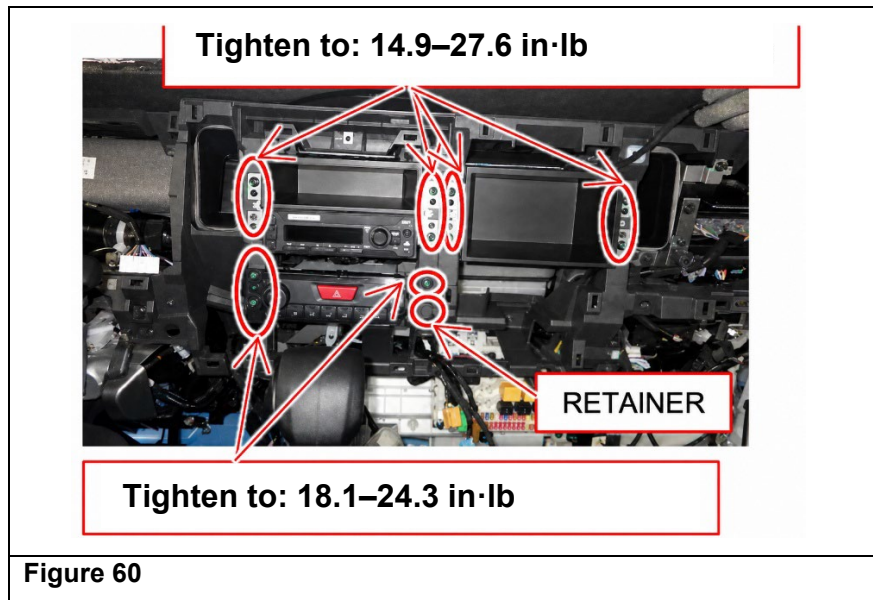
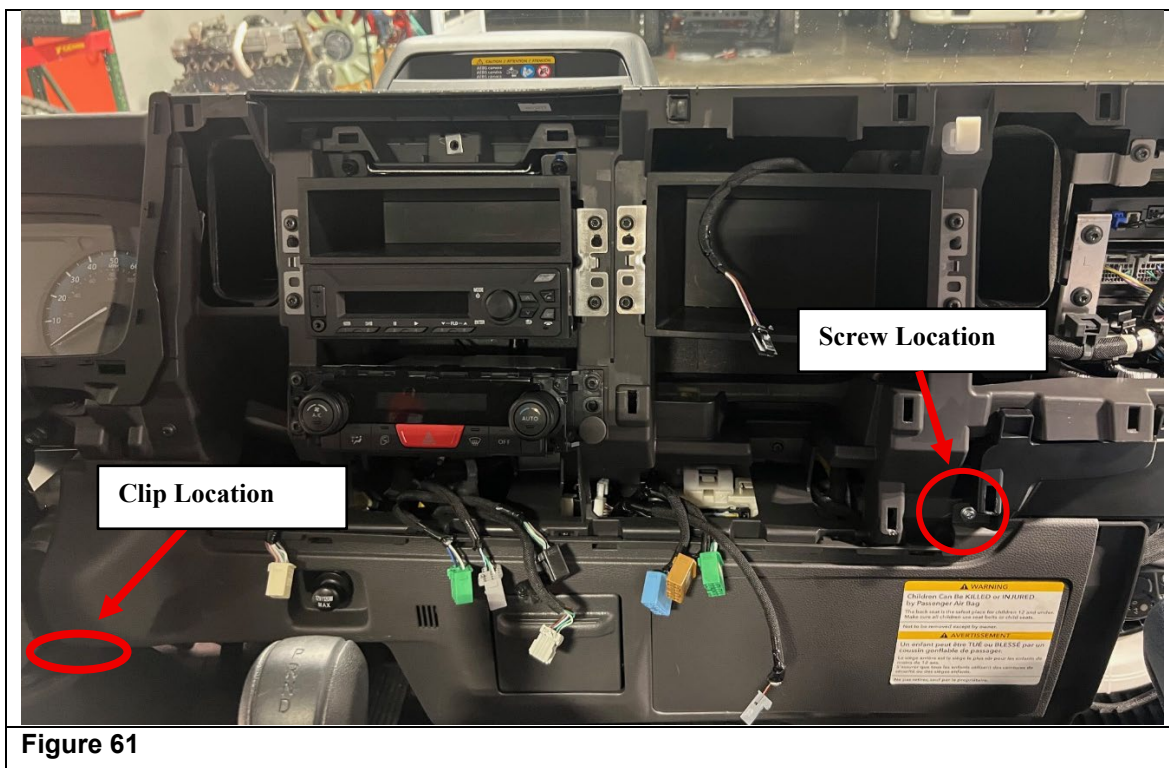

Figure 58
Figure 59
59. Place the band clip with protective tape between the harness and the reinforcement bar. (See Figure 58.) Using both hands, slide the band clip with protective tape towards the right of the harness until it reaches the base of the wire branch with blue tape. (See Figure 59.) After confirming that the harness is fully protected, tighten and lock the band clip around the wiring harness.